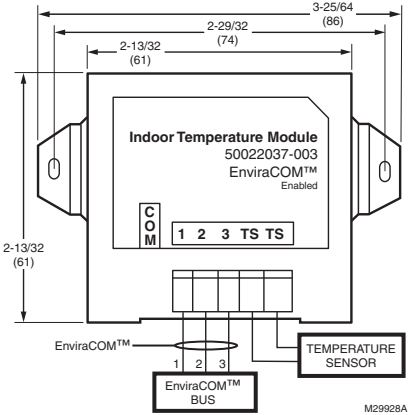

Fig. 1. W8735S1016 Indoor Temperature Module wiring diagram.
- 2. Wire the 1,2, and 3 terminals on the Indoor Temperature Module to the 1,2, and 3 terminals on the EnviraCOM™ enabled EnviraLINK™ Gateway, Oil Primary, or Aquastat®, or anywhere on the EnviraCOM™ bus where access is available and convenient. See Fig. 1.
- 3. Connect the 2 wires from the C7089U temperature sensor (See Fig. 1) into the TS terminals on the Indoor Temperature Module. One wire inserted into one TS terminal, the other wire inserted into the other. See C7089U Installation Instructions (Form Number 69-1709EFS) for additional sensor installation instructions and specifications.